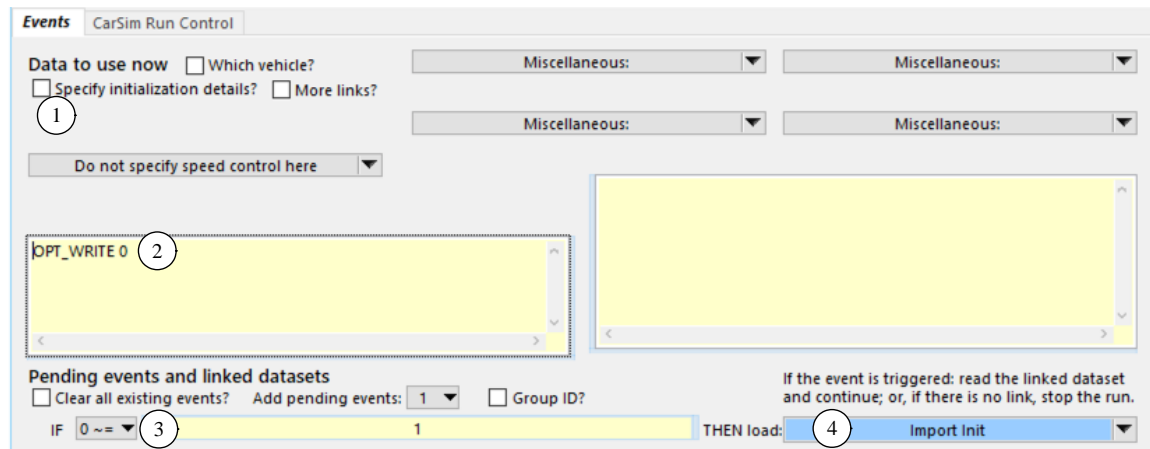
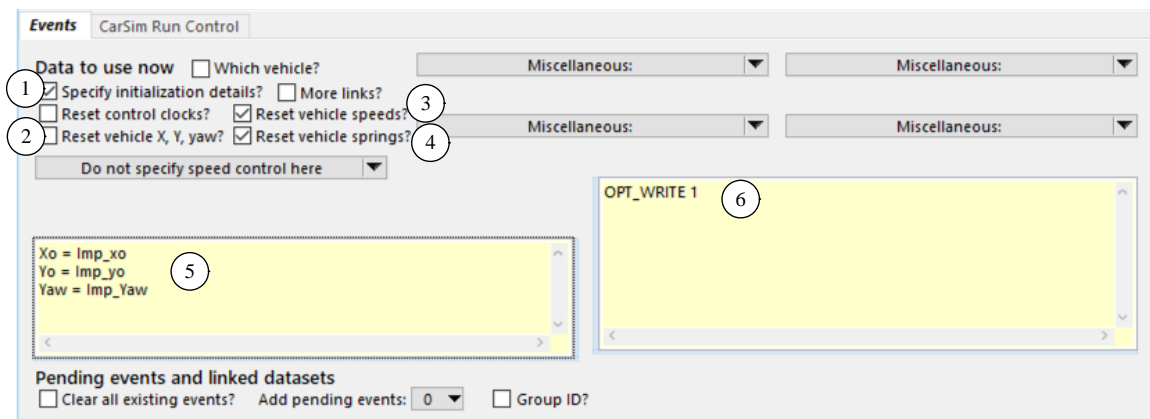
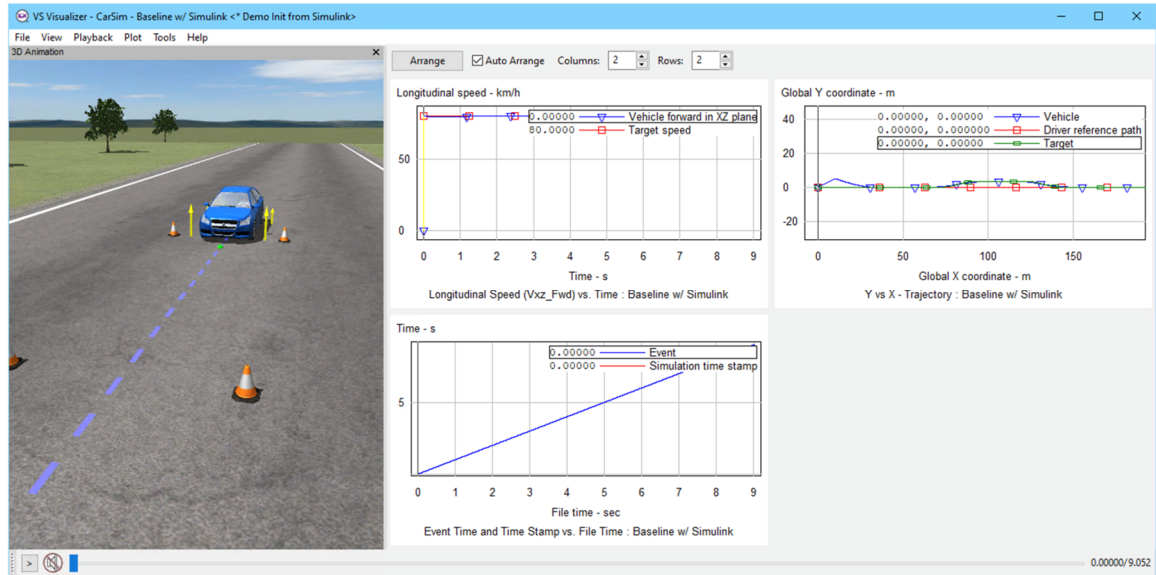
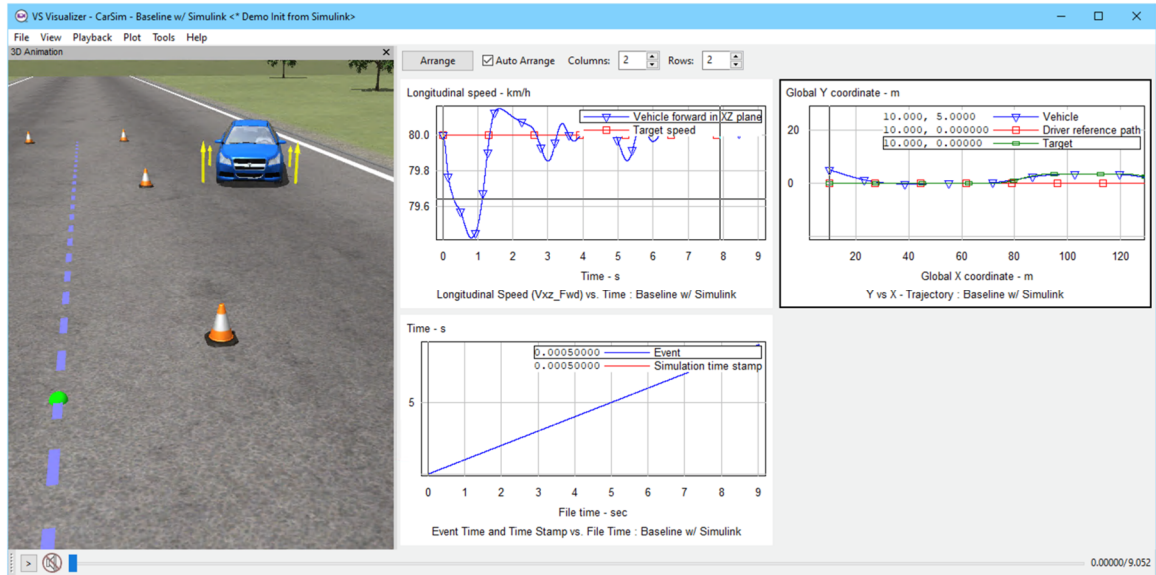

Figure 6. Setting up the Event that will trigger during the first time step.
Figure 7. The dataset that will be read at the end of the first time step.
Figure 8. Video for $T = 0$ and plots starting at $T = 0$.
Figure 9. Video for $T = 0.0005s$ and plots starting at $T = 0.0005s$.
Figure 6 shows the **Events** dataset that is linked to the **Run Control** screen. This dataset is very simple: it does not specify initialization details (1); all it does is disable writing to file (2) and create a pending Event that will trigger if 1 is not equal to 0 (3). That is, it will trigger the first time it is tested, which will be near the end of the first time step. When triggered, the VS Math Model will read the linked dataset (4), which is shown in Figure 7.
The **Events** dataset shown in Figure 7 has the box checked to **Specify initialization details** (1), and also the boxes to reset speeds (3) and springs (4). However, the box to **Reset vehicle X, Y, and yaw** is not checked (2). Instead, that is done manually in the miscellaneous field (5).
Results are shown for two runs. In the first (Figure 8), the statement `OPT_WRITE 0` in Figure 6 was commented out, to enable writing to file from the very start, when $T = 0$. Visually, the vehicle is located on the target path and aligned with it. The plot of longitudinal speed indicates that the target speed is initially 80km/h but the vehicle speed is 0. The plot of coordinates shows the X-Y coordinates of the vehicle to be 0,0. The time plot indicates that at the time shown as 0 in the lower-right corner of the VS Visualizer window, the simulation time stamp is also 0.
In the first time step, the target speed is set to 80 km/h from the import variable. The import variables `imp_xo`, `imp_yo`, and `imp_yaw` have the values set in Simulink, but they haven't been used yet when the VS Math Model write values into the output file at $T = 0$. After writing to file, the Event is triggered, and the dataset from Figure 7 is read. The model state variables for X_o , Y_o , and Yaw are now set to the values imported from Simulink. They would potentially be updated by numerical integration, but because the vehicle is at rest, they will keep their values for the next time step.
To better see the behavior after $T = 0$, consider the plots shown in Figure 9. These result were obtained by restoring the setting statement `OPT_WRITE 0` in Figure 6. With that setting, results were not written to file until the completion of the second time step, when $T = 0.0005s$. Notice that the position at $T = 0.0005s$ is $X = 10$, $Y = 5$. The yaw was set to -15° , as indicated visually in the video. The target speed is 80.0 km/h. The plot of time stamp vs. file time shows that the first data point (identified as $T = 0$ in the lower-right corner of the window) has the simulation time at 0.0005s.